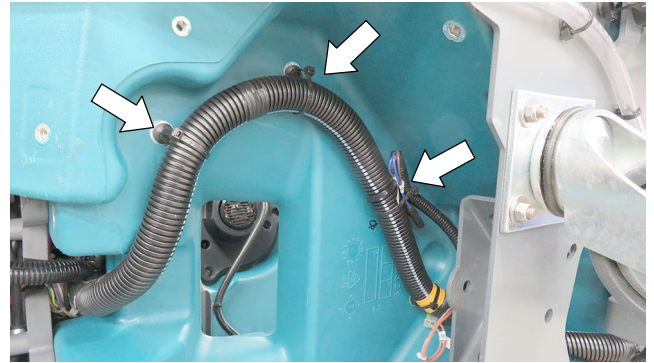

Fig. 6
- Using three wire-ties supplied with kit, return the main wire harness to its original location (Figure 6).